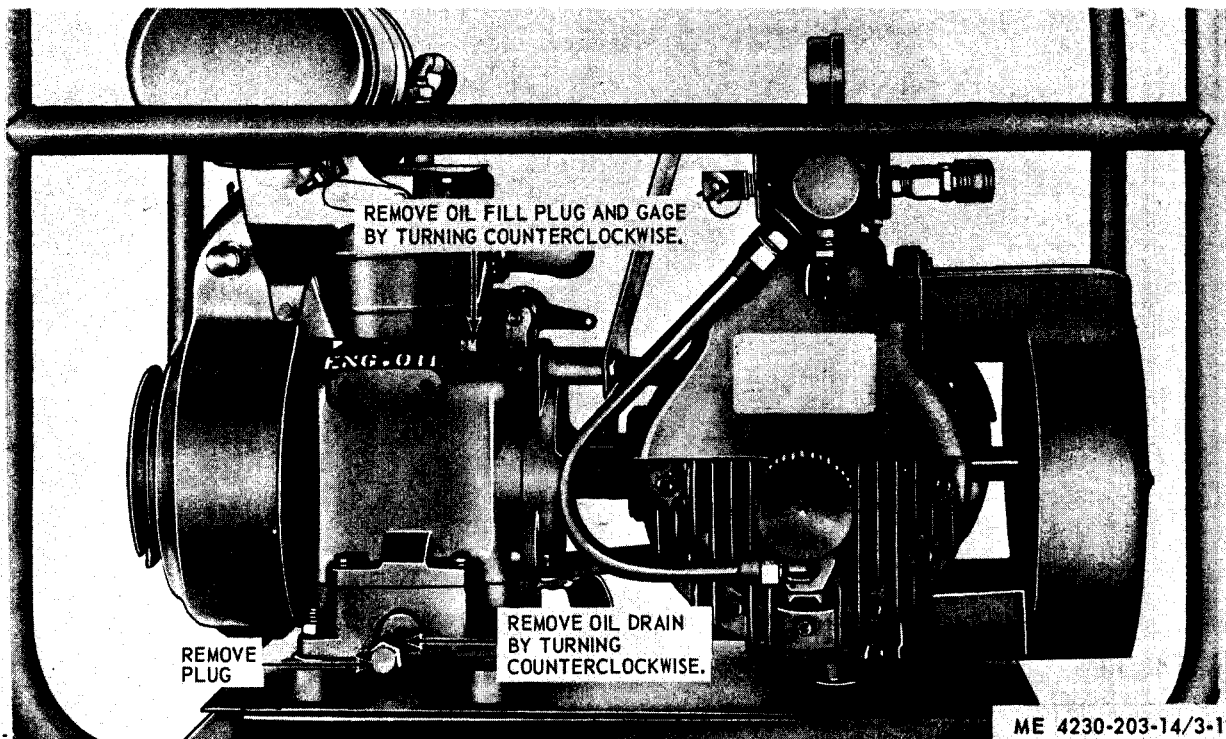

Figure 4-12. Oil fill plug and gage and drain.
a. **Removal.** Refer to figure 4-12 and remove the oil fill plug and gage and oil drain.
(1) Clean all parts with solvent and dry thorough-
(2) Inspect for cracks, breaks, and other damage.
(3) Replace a damaged or defective oil fill plug and gage and oil drain.
c. **Installation.** Refer to figure 4-12 and install the oil fill plug and gage and oil drain.